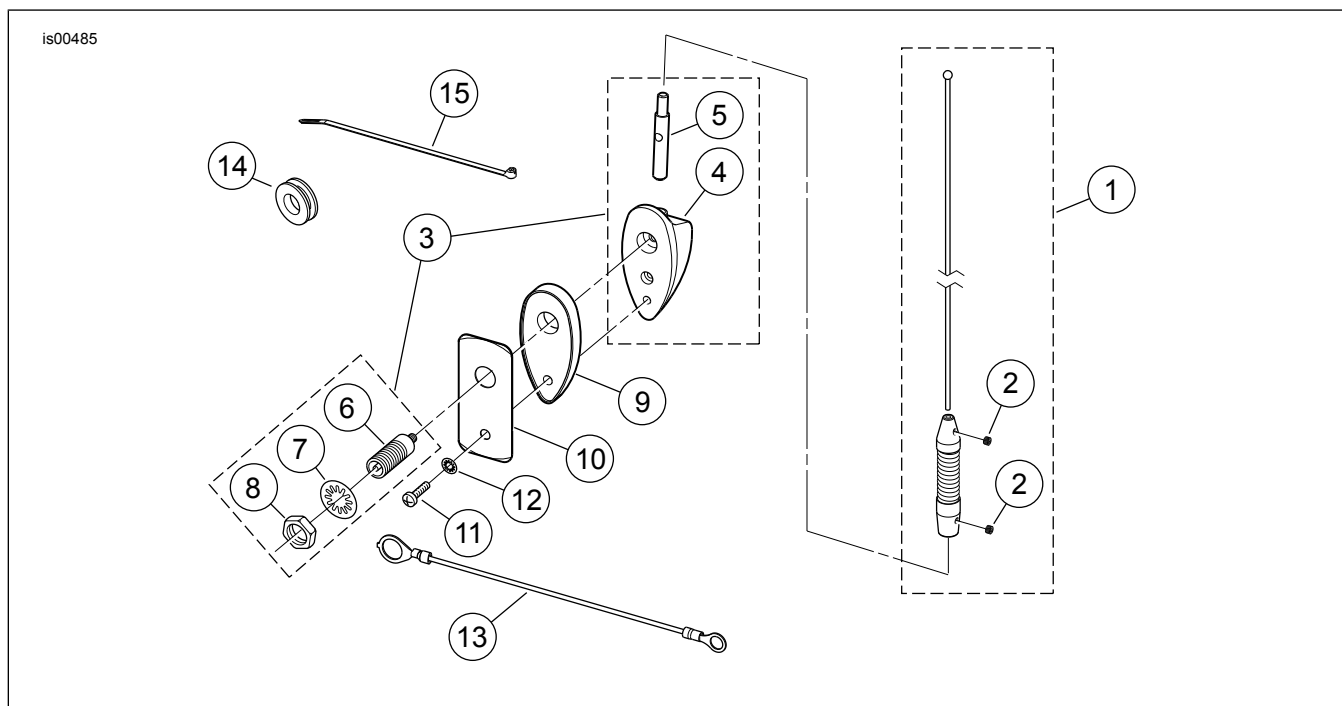

Figure 4. Service Parts, AM/ FM Tour-Pak Mount Antenna
See Figure 4 and Table 1.
1. See Figure 4. Obtain the antenna base assembly (3) from the kit. Remove the hex nut (8) and internal tooth lockwasher (7) from the plug assembly (6) on the base.
2. Assemble the base gasket (9) to the antenna base.
3. With the antenna mast stud (5) facing **up**, position the base assembly over the holes drilled earlier in the outside rear Tour-Pak wall. Be sure the plug assembly (6) goes through the larger (top) hole.
4. Place the antenna reinforcement plate (10) in position inside the Tour-Pak. Obtain the ground cable (13) from the kit, and place the large ring terminal over the plug assembly. Use the hex nut (8) and lockwasher (7) to attach the ground cable to the plug assembly, but do not fully tighten at this time.
6. Install the TORX® screw (11) and small lockwasher (12) through the smaller (bottom) hole of the antenna reinforcement plate into the antenna base. Tighten the screw securely. Tighten the hex nut securely.
7. Thread the antenna mast assembly (1) onto the antenna base adapter (5), and use a 2 mm hex key to securely tighten the set screw at the bottom of the mast assembly to hold it in place.